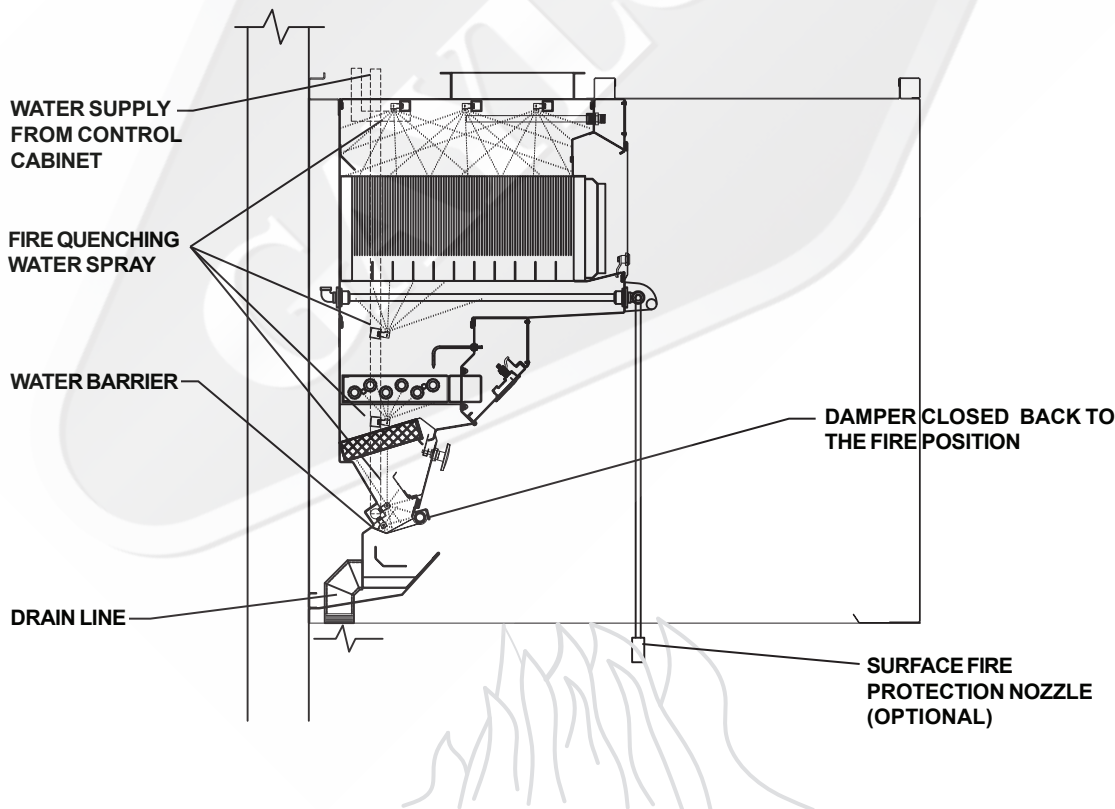

FIG. 4
1. The damper begins closing back to the fire position, position 3 as shown in Fig.4—stopping the combustion-supporting, natural draft through the ventilator and creating a fire barrier to contain the fire in the kitchen.